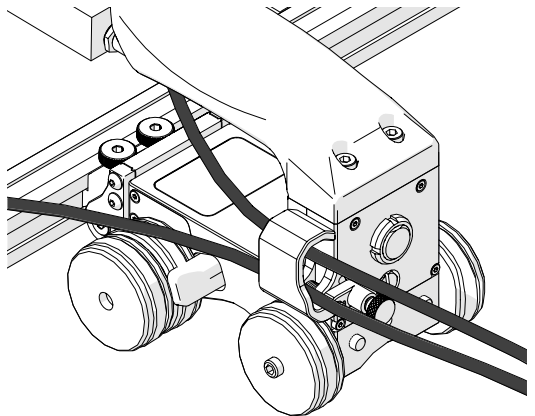

Fig. 77 - Cable management
3. Route cables and hoses through the cart's cable management clip (Fig. 77).